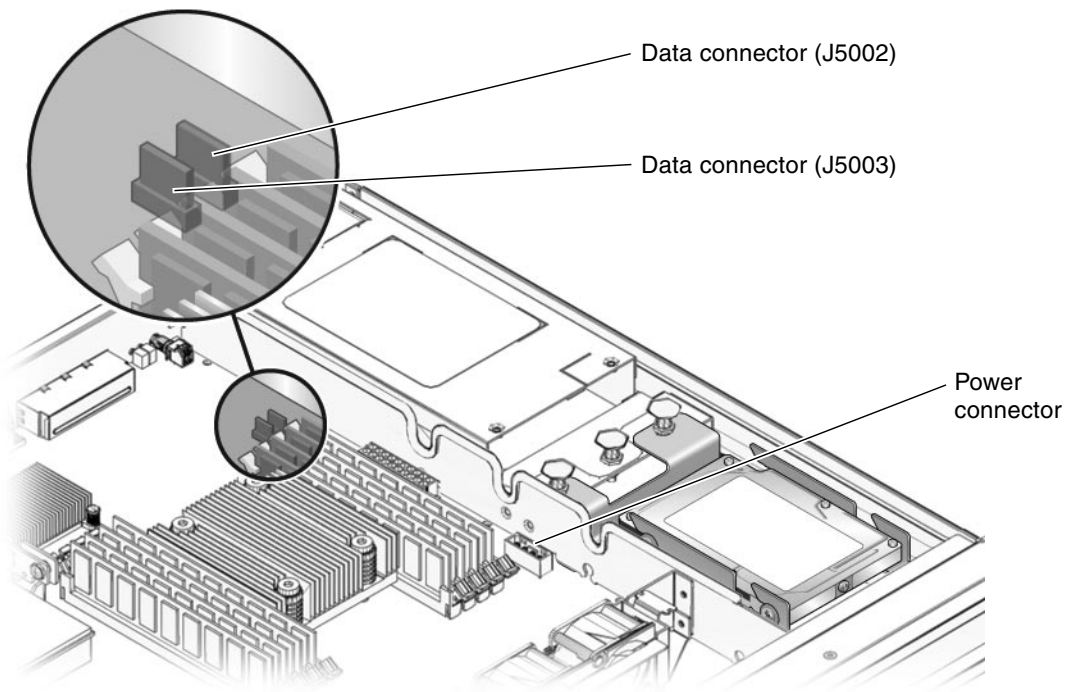

FIGURE 5-7 Location of Drive Power and Data Connectors on the Motherboard
- 2. Disconnect the drive cable from the data and power connectors on the motherboard and remove the drive cable from your server (FIGURE 5-7).**
9. Plug the power connector on the dual-drive cable to the power connector on the motherboard (FIGURE 5-7).
Refer to FIGURE 5-7 for the location of that connector.